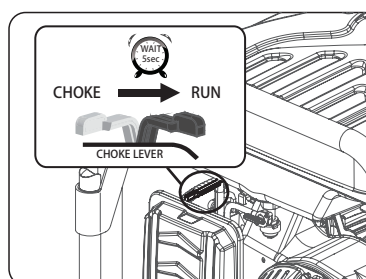

Fig 14
- Let engine run for several seconds and then gradually, as engine warms up, slide the choke lever towards the “RUN” position until the choke is fully slid to the “RUN” position. (See fig 14)